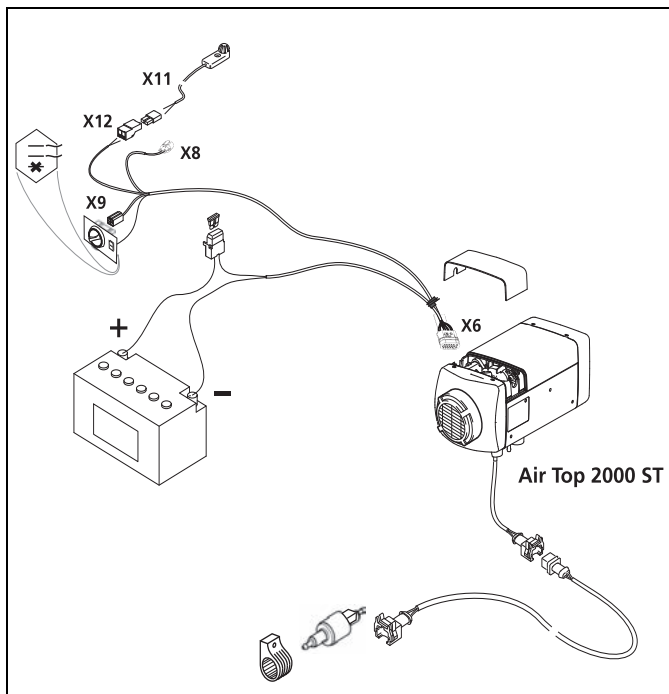
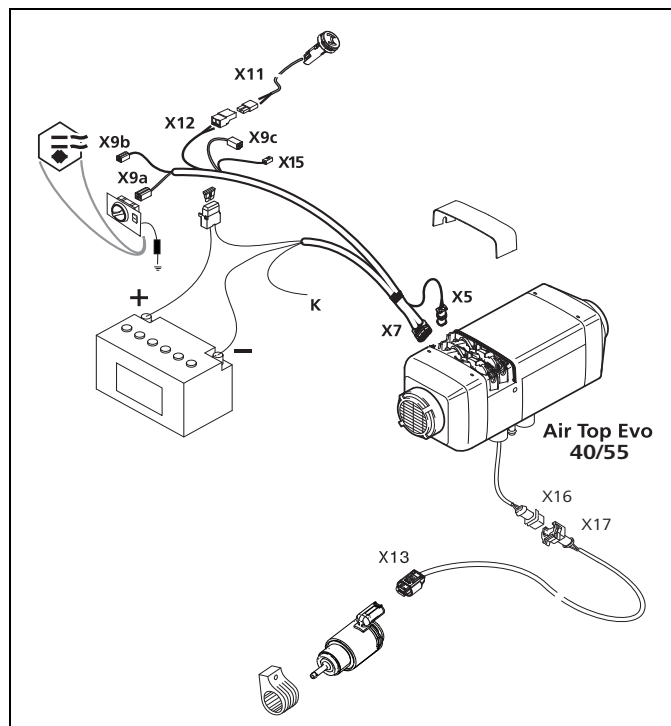

Fig. 32 Wiring harness Air Top 2000 STC
Fig. 33 Wiring harness Air Top Evo 40 / Air Top Evo 55
Fig. 32 and Fig. 33 show the wiring harnesses for Air Top 2000 STC and Air Top Evo 40 / Air Top Evo 55
- The wiring harness for the Air Top Evo 40 / Air Top Evo 55 includes cable K (Fig. 33, colour rt/sw) for optional control of a battery disconnect or an additional operating indicator.